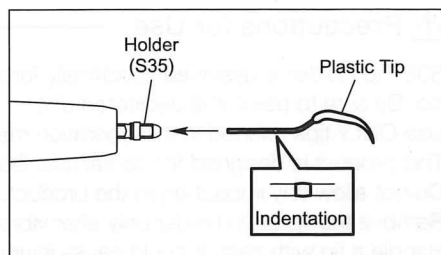

Fig. 2
- 2) Insert plastic Tip into holder (S35). Insert it into holder until holder (S35) aligns with the indentation of the metal core of Tip. (Fig. 2)